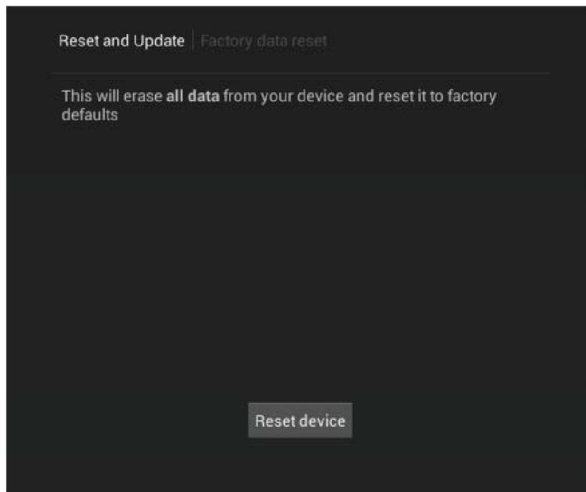

FIG. 111 Factory Data Reset window
1. Under DEVICE RESET, press **Factory Data Reset** to open the Factory Data Reset window (FIG. 111).